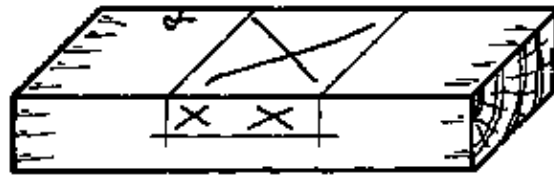

Fig. 3
– Square the lines across the side and halfway down the edges with a try square. Mark the waste (Fig. 3, previous page).
– With the same setting, gauge the depth of the socket on both edges and mark the waste (Fig. 3, previous page).